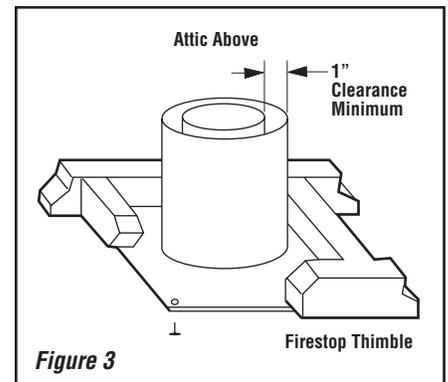

Figure 3
Step 3. Position appropriate thimble/firestop spacer combination at ceiling and nail temporarily with two (2) 8d nails or equivalent fasteners (see **Figures 3, 4 and 5**). Use one fastener on opposite sides to hold thimble/firestop spacer combination in position.